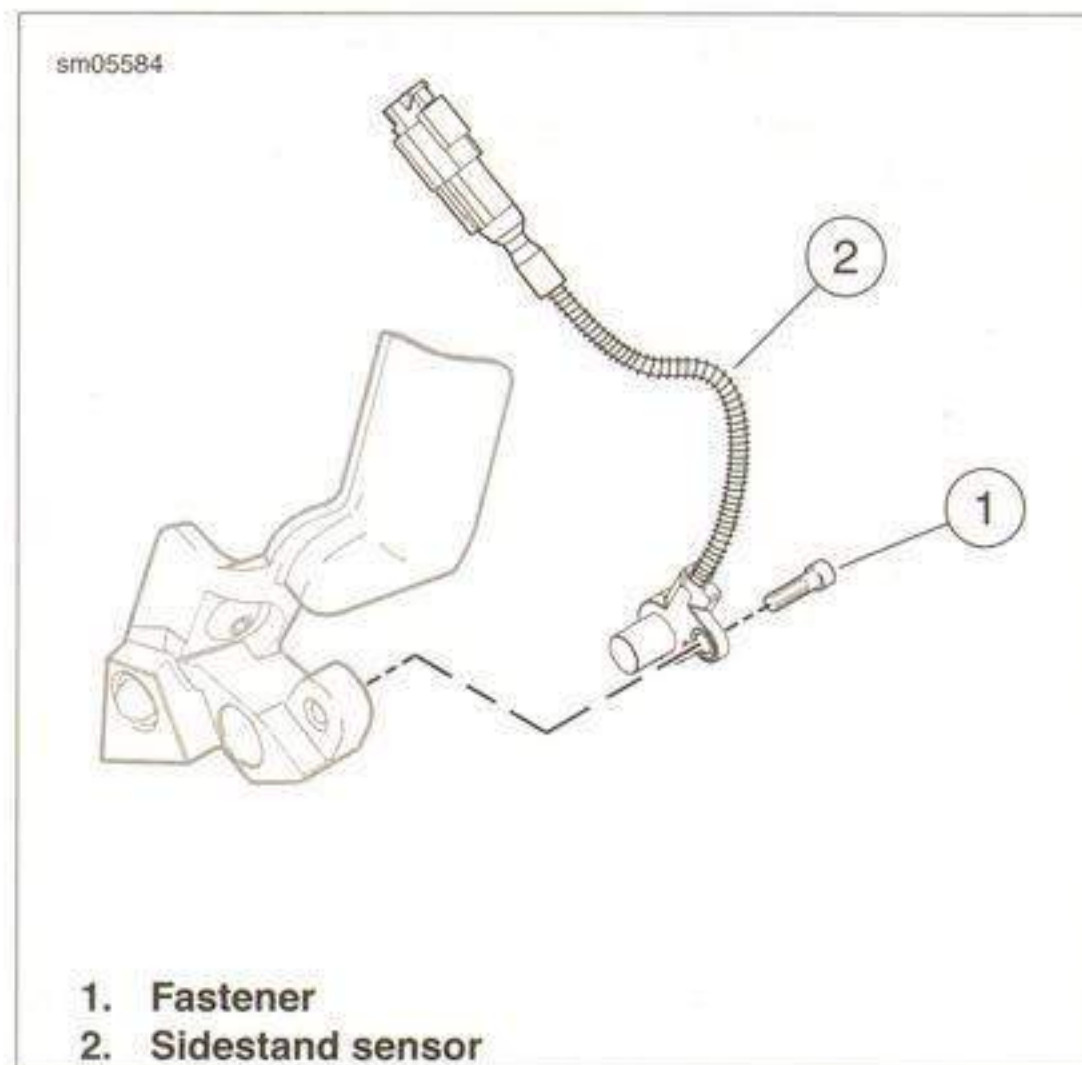

Figure 7-89. Sidestand Sensor
4. See Figure 7-89. Fit the sidestand sensor (2) to the hole in stop bracket.
5. Install fastener (1) and tighten to 10-13 Nm (96-144 in-lbs).